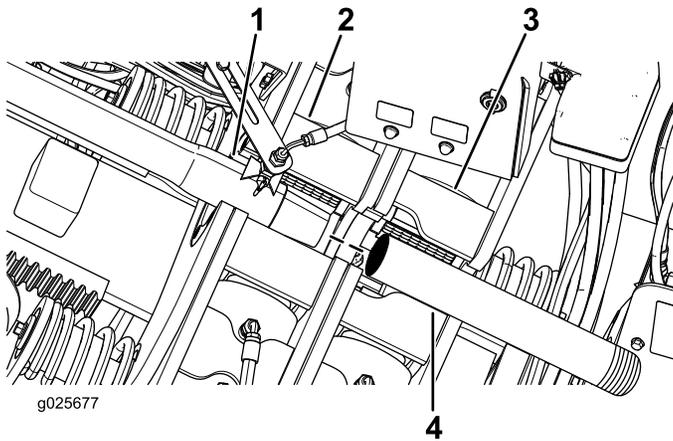

Figure 52
2. Place the lead bar through the lower wrench (stationary wrench) as shown in Figure 52.